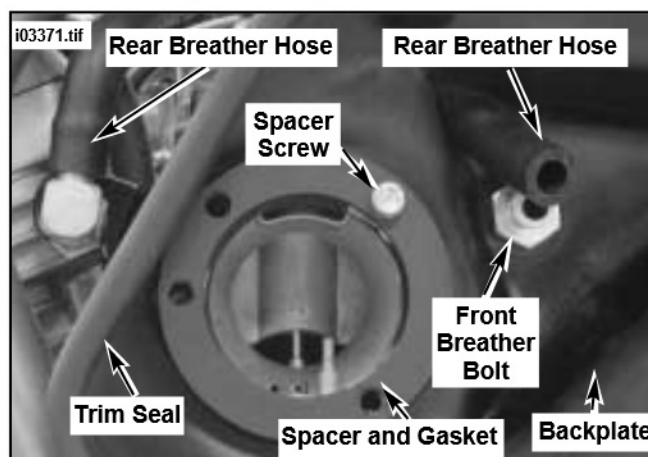

Figure 11. Install New Backplate
30. See Figure 11. Slide rear breather hose through backplate. On California models, slide fresh air inlet hose from carbon canister through backplate.